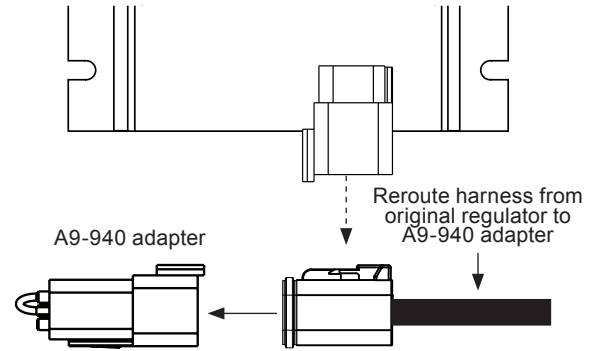

Figure 4: Reuse Existing FLD wire for IGN with A9-940 Adapter
- 50-VR regulators with Deutsch connector. See Figure 4: Unplug Deutsch harness from regulator and plug into a CEN A9-940 wiring adaptor. No other wiring modification is required. Secure harness as needed.